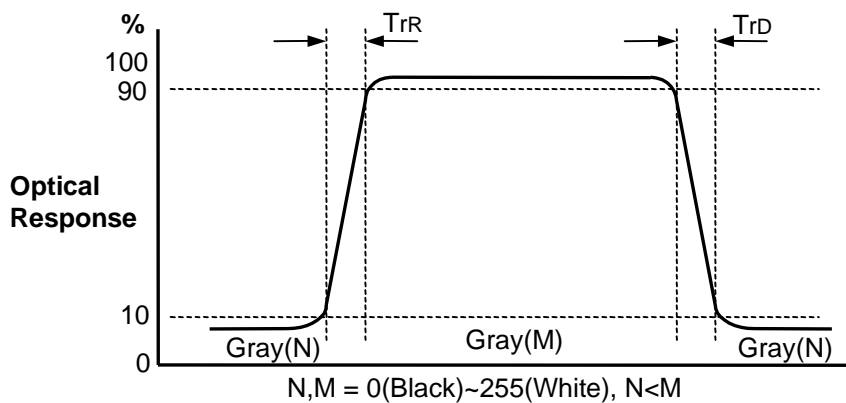

FIG. 3 Response Time
4. Response time is the time required for the display to transition from G(N) to G(M) (Rise Time, Tr_R) and from G(M) to G(N) (Decay Time, Tr_D). For additional information see the FIG. 3. ($N < M$)